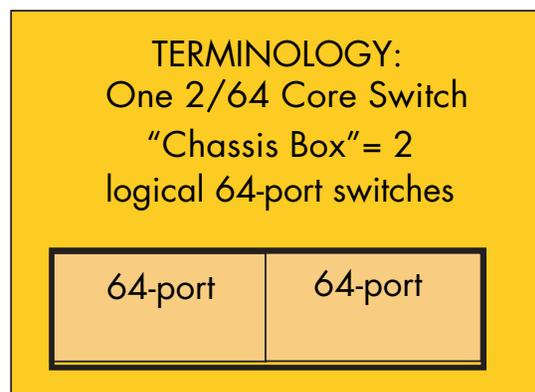

Figure 21: Core Switch definition
2. The HP StorageWorks core switch 2/64 – maximum of 10 chassis total per fabric, each chassis contains 2 logical switches (See Figure 21), thus 10 chassis add 20 to the fabric switch count. Maximum fabric configuration is 10 chassis with 8 other 8-port, 16-port, or 32-port switches.